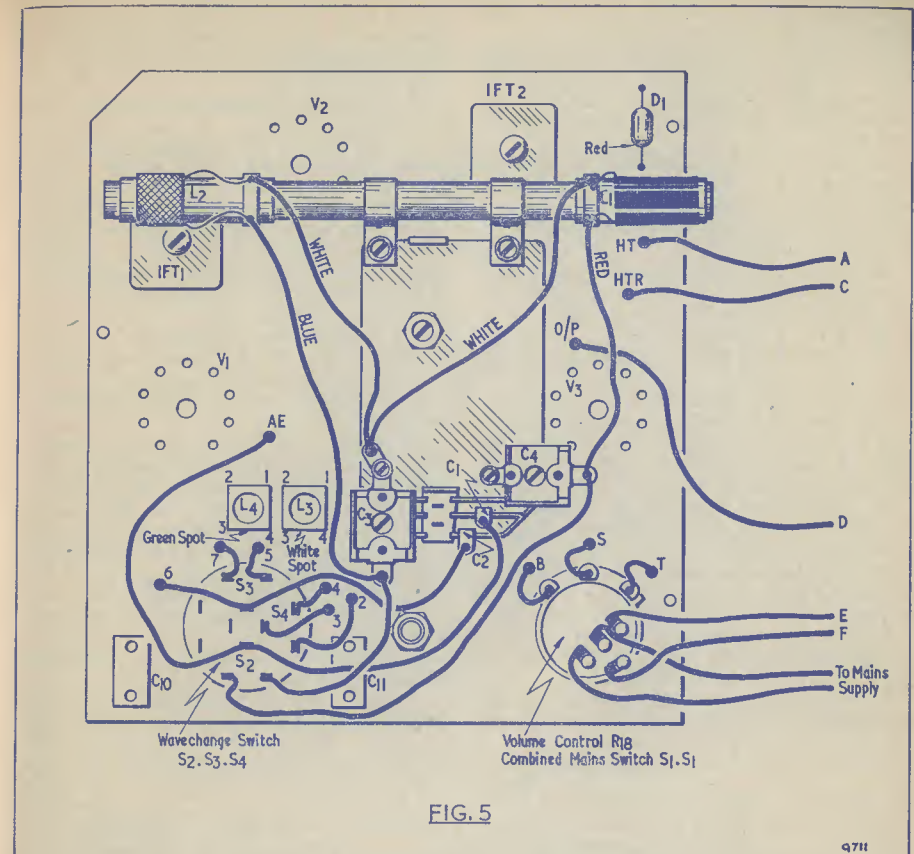

FIG. 5
24. Adjacent to these two trimmers and the wavechange switch (see Fig. 5) are the numbers 2, 3, 4, 5, 6 and 7 marked on the printed circuit board. Tinned copper wires each about 2 in in length, are now fitted in each of these holes for connection to the wavechange switch, this being fitted in the
26. Connect points 2, 3, 4, 5, 6 and 7 to the wavechange switch as shown in Fig. 5.
4BA x $\frac{1}{4}$ in bolts. A 4BA solder tag is fitted under C_3 where shown in Fig. 5.
31. The Medium wave oscillator coil L_3 (white coil) and the Long wave oscillator coil L_4 (green coil) should both be mounted, noting the colour spot as indicated in Fig. 5. Solder all connections.
32. With reference to Fig. 5, the following connections should now be made. Wire C_1 tag to S_2 and the point marked "AE".
36. Three wires should now be fitted to the holes marked B-S-T respectively adjacent to the on/off volume control R_{18} . Fit the volume control and connect leads B-S-T as shown in Fig. 5. Leads A-C-D-E-F (Fig. 5) are now also soldered into circuit. (Note that Fig. 6 shows an alternative volume control.)
58. Connect the mains leads to the volume control switch as shown in Fig. 5 or Fig. 6 (alternative types of volume controls).
59. Mount into position the ferrite rod with the coils L_1 and L_2 in the positions indicated in Fig. 5. The two punched lengths of plastic strip are folded around the ferrite rod. Use 4BA x $\frac{1}{4}$ in bolts with a 4BA washer under each head (see Fig. 5) in order to clamp the strips into position.
60. The four coloured leads from the coils L_1L_2 should now be connected into circuit as shown in Fig. 5.